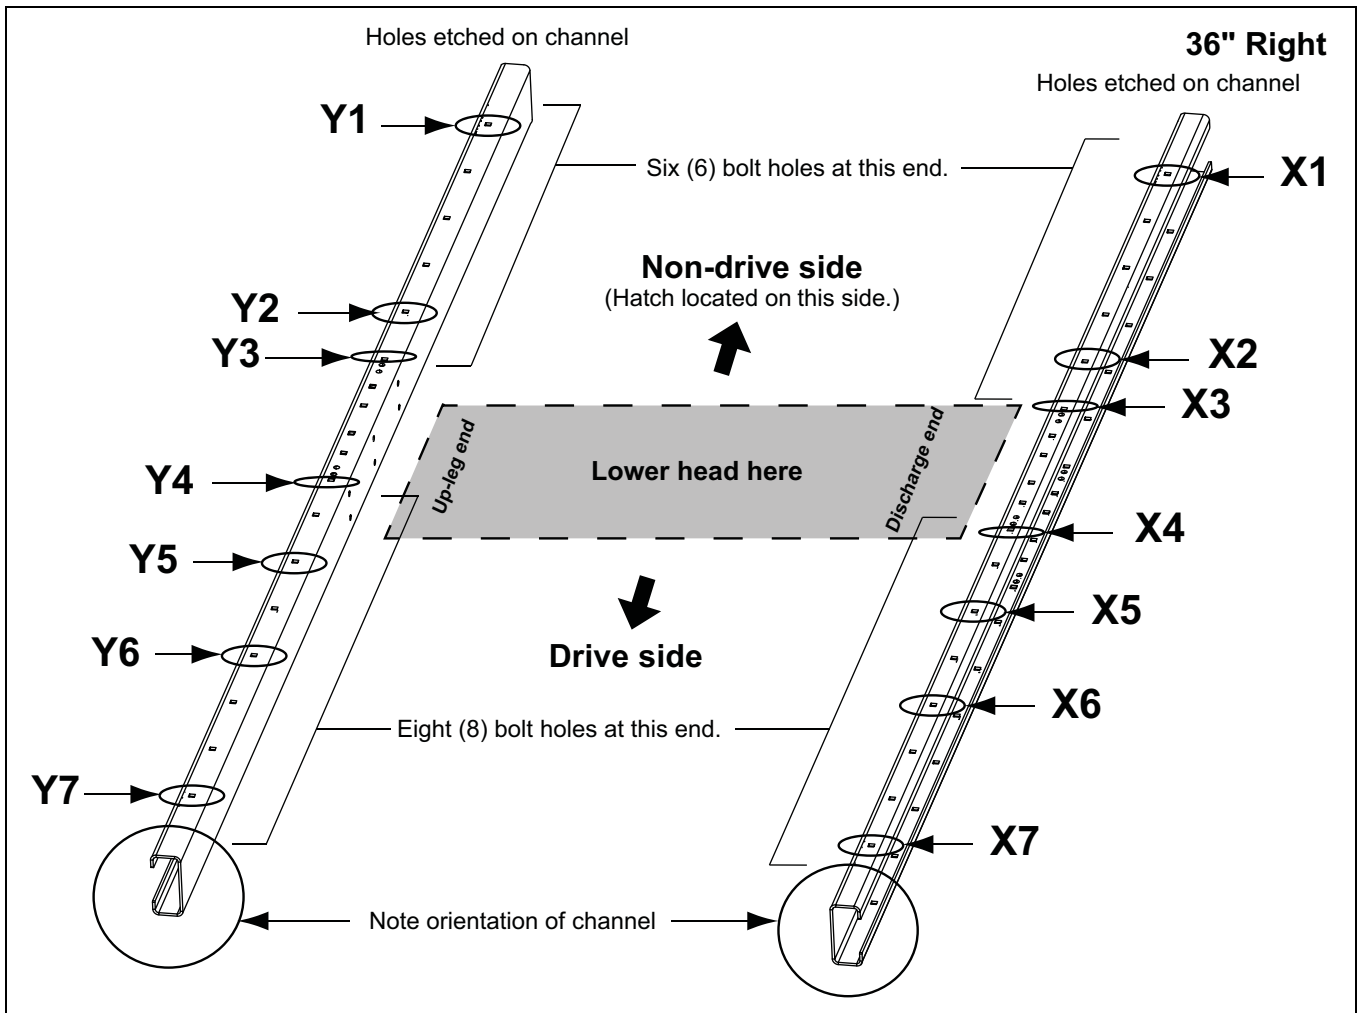
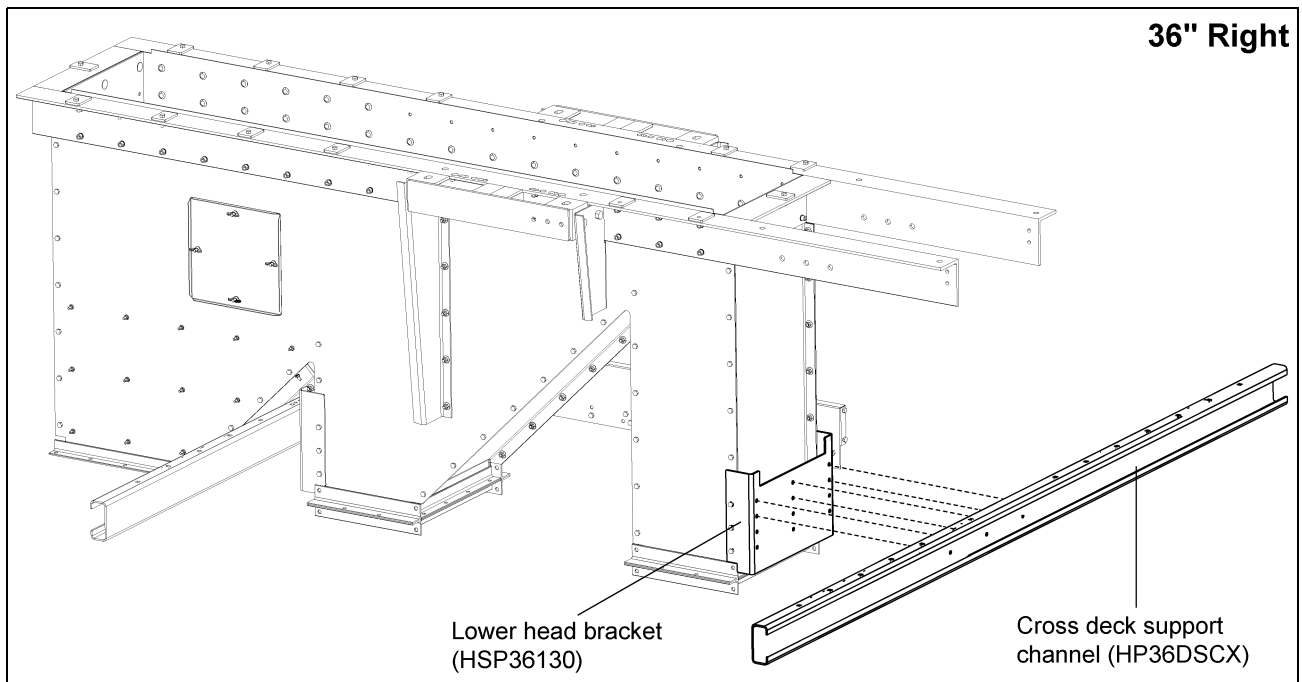

Figure 8D 36" Right Side Drive Channel Position
Figure 8E
(See Figure 8D on Page 49.)
3. Attach cross deck support channels (HP36DSCX) to the top-most set of holes of the lower head brackets (HSP36130) using 3/8" x 1" bolts and nuts and torque properly. *(See Figure 8E on Page 49.)*
- *NOTE:** *The channels MUST be oriented as shown in Figure 8D and Figure 8E on Page 49 in order for the decking and subsequent assembly to be done correctly.*